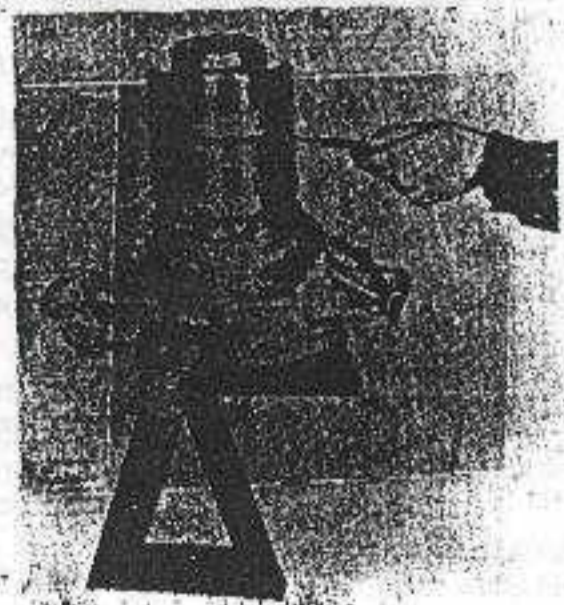

FIG 11 - GEARBOX - CHECKING
18. With the driving shaft vertical, assemble the components on the shaft in the following sequence. Lightly oil each component as it is fitted and ensure that all gears mesh correctly. After the running gear has been built up on the driving shaft check with a 0.005 inch feeler gauge between the brake drums to ensure the necessary running clearances (fig 11). Lack of this clearance suggests that one of the bushes or washers has been omitted, or that an unserviceable one has been used. If insufficient clearance exists when new components have been fitted, obtain this clearance by lightly skimming the lip of the drum on a lathe.